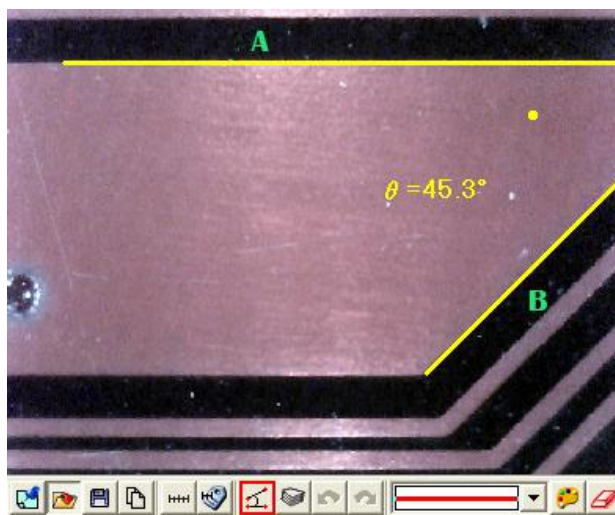

Fig 5-72 4 Points Chamfer
- (9) 4 Points Angle: Use  to measure an angle but only see 2 unparallel lines shown on the object. See Fig 5-72, to draw a 1st line from the object (see line A), and to draw the other unparallel line (see line B), the angle can be automatically calculated. See Fig 5-72. There is a small dot show 45.3° .